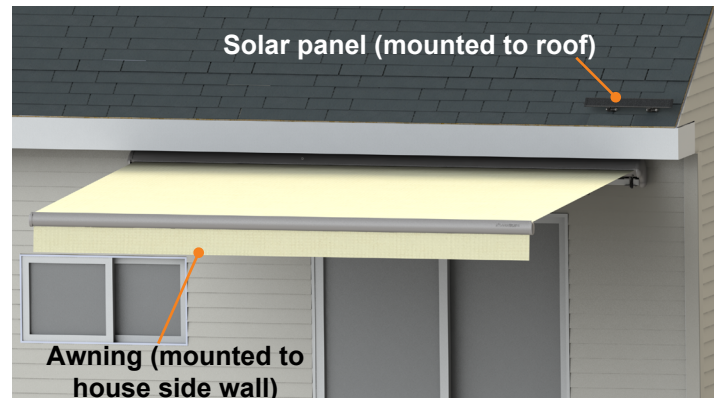

Fig.1
- The Lumina Awning is powered by a remotely mounted solar panel. This panel must receive as much sunlight as possible to power the awning. It must be mounted in such a way that it is either above the awning and/or not covered by it, and not in shade of any kind. Some variation to actual mounting surface may be needed depending on the extenuating circumstances of the install, such as mounting the solar panel to the roof and mounting the awning to the side of the house or soffits (Fig. 1), or mounting the awning on one side of the house and the solar panel around the corner on a different side of the house (Fig. 2). Keeping in mind the position and movement of the sun in relation to the residence and choosing the proper location to install the solar panel is critical to achieve intended product operation.